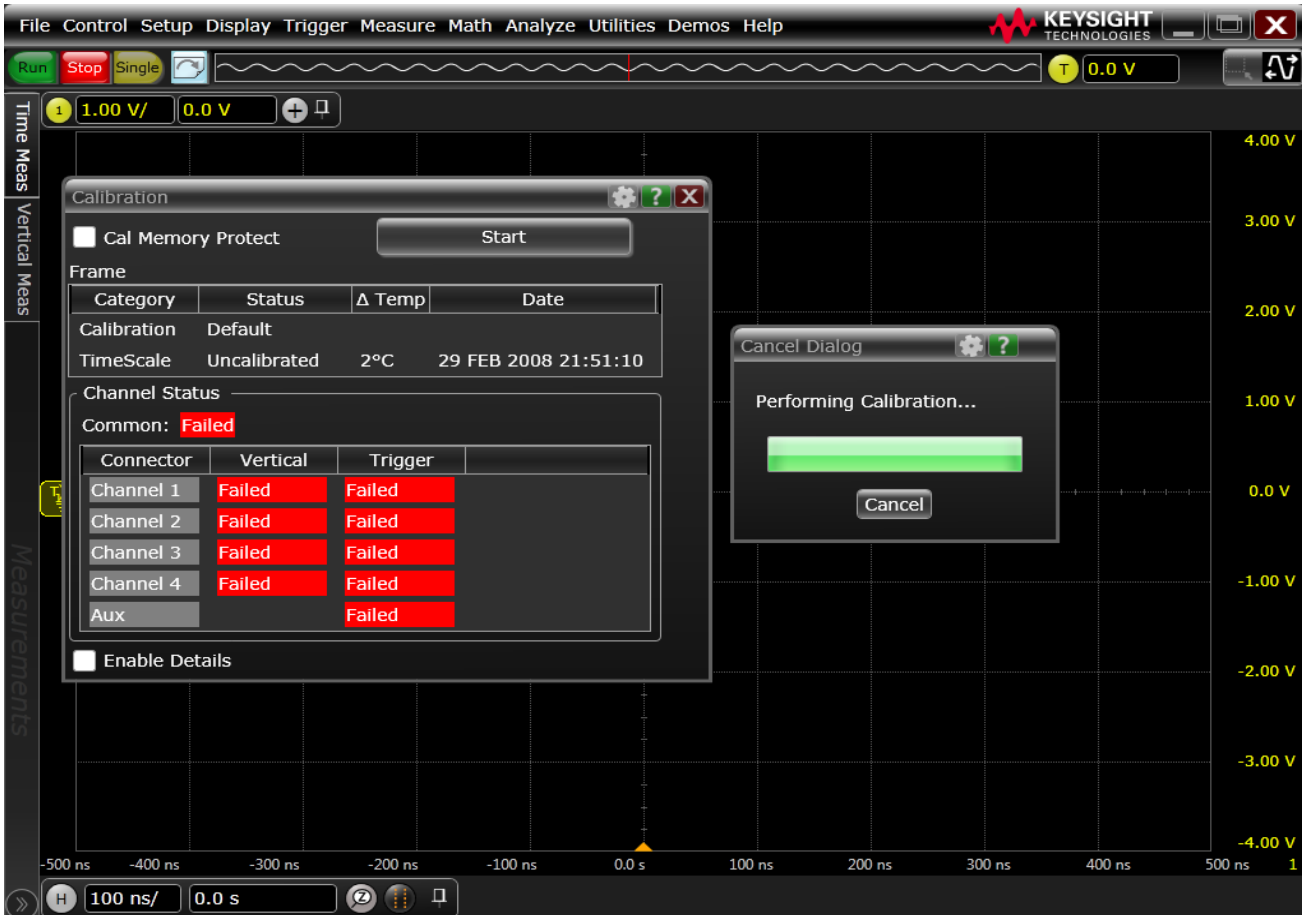

Figure 47 Oscilloscope Calibration Process
- 4 Referring to Figure 47 below, perform the following steps to start the calibration: